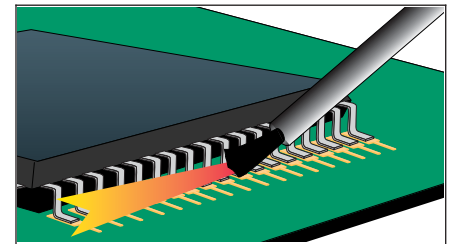

Figure 3 Apply Flux
5. Apply flux to remaining lead/land areas of the row to be soldered. (See Figure 3.)